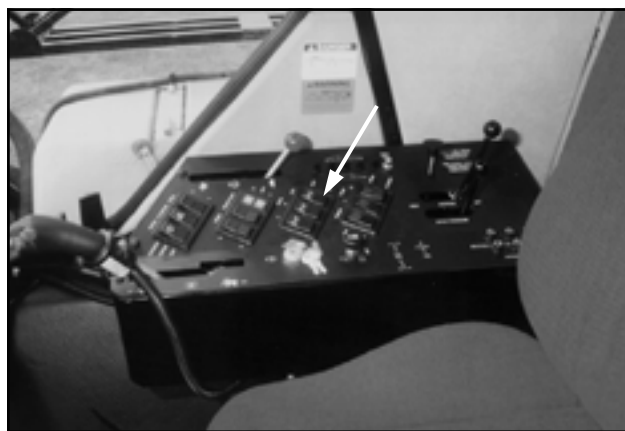

FIG 5.18
**VERTICAL EXTENSION FOLD** - To fold the boom extensions of an eighty or ninety foot boom vertically in or out, depress the “IN” or “OUT” of the “EXTENSION” switch (fig. 5.18). This activates both extension cylinders connecting the inner boom section and the center boom section (fig. 5.17).